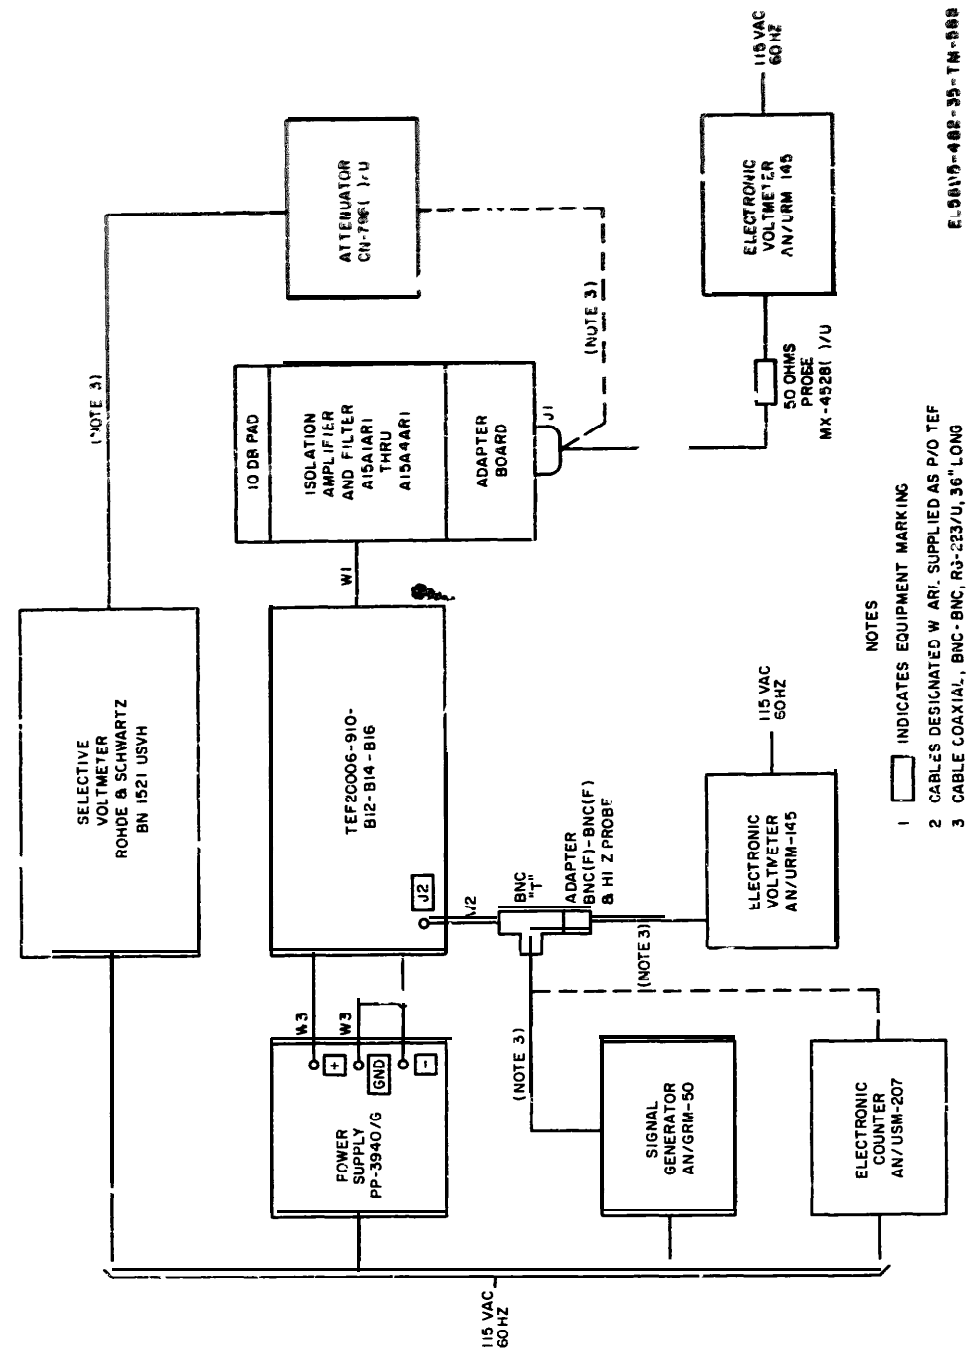

Figure 5-143 Isolation amplifier and filter A15A1R1 through A15A4AR1, test setup diagram
- (1) Install A15A1AR1/A15A4AR1 in cover.
- (2) Turn all switches to OFF.
- (3) Tack solder module leads to fixture adapter board cables.
- (4) Connect equipment as indicated in figure 5-143.
- (5) Energize power supply and adjust for +18 volts dc.
- (6) Turn S2 on fixture to B12 position.